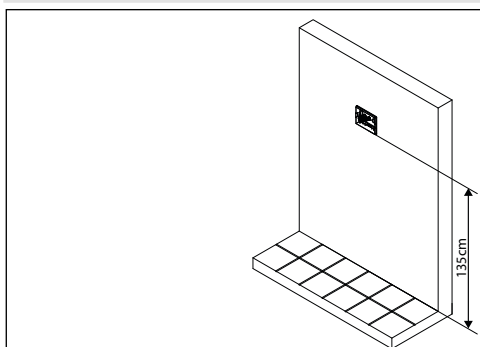

Fig. 4
2. Protect the holes to fix the videophone to the flush mounting box then embed the flush mounting box in line with the wall **in a horizontal position** at 135cm height from the floor as shown in **Fig. 4**;